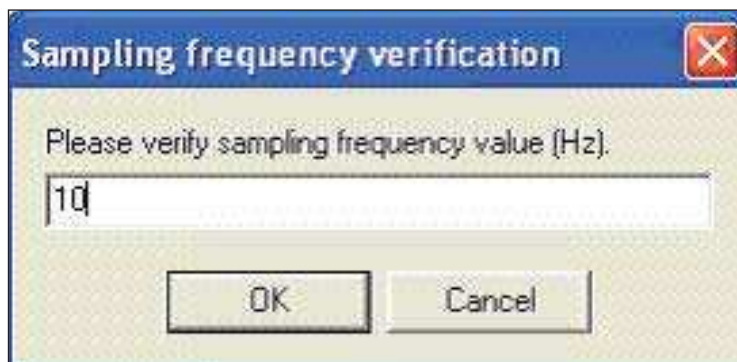

Figure 4: Enter the actual sampling frequency of the collected data, which are being processed.
- Enter the exact sampling frequency (Hz) for your raw data file (see Figure 4).